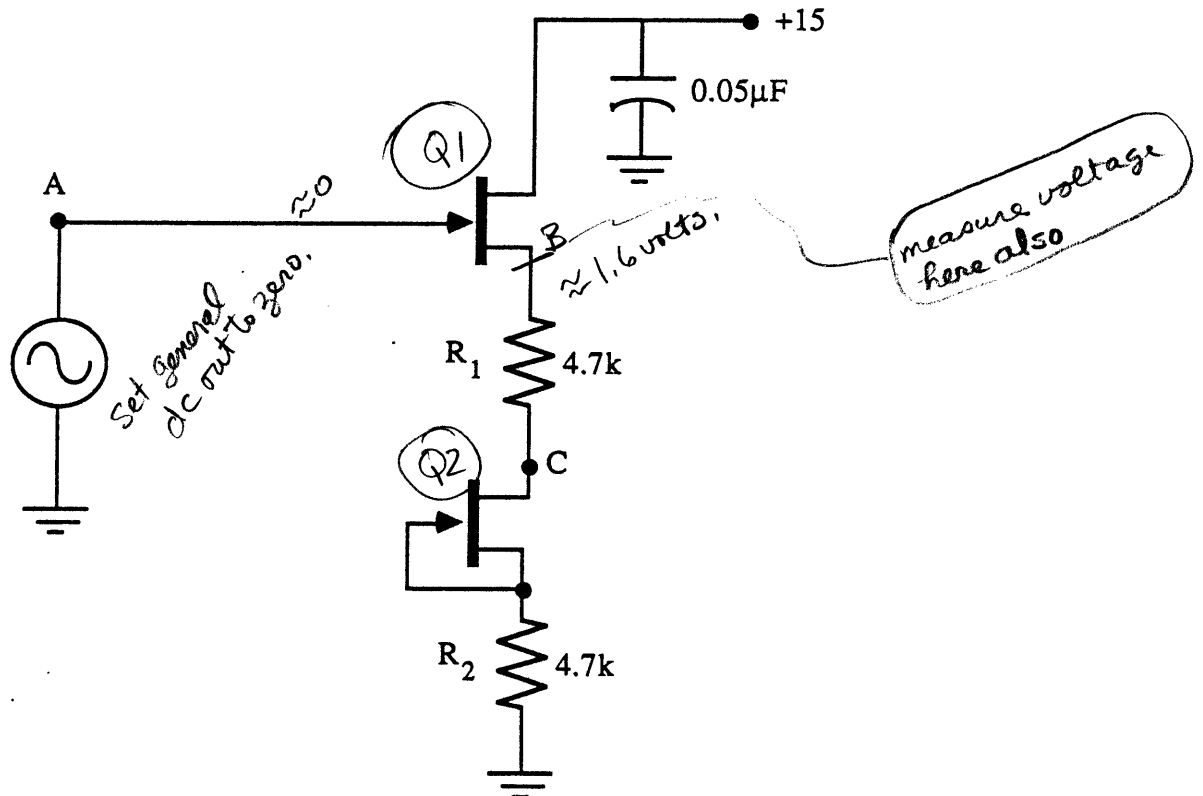

Figure 4 - Source follower with common source load
The performance of many FET amplifiers can be improved by using current biasing. Modify your circuit to that of Figure 4 which is a source follower with a current source load.
- (1) Build the circuit shown in Fig.4. Connect the scope CH1 input to point A and CH2 input to point C. Measure the DC voltages at points A and C. Record your measurements in Table 11.7.
- (2) Interchange your FETs. Remeasure the DC voltages at points A and C. Record your results in Table 11.7.
- (3) Adjust the generator to produce a 100 mV_{p-p} 1 kHz triangle wave at point A.
- (4) Use the scope to measure the AC_{p-p} voltage at point C. Record your data in Table 11.7.
- (5) Repeat steps 3 and 4 using 1V, 1.5V, etc. in step 3 until your signal distorts.
- (6) Connect a 1000 ohm resistor between point C and ground. Repeat steps 3 and 4.
4. No question about Figure 4.
4. Need question about Figure 4.